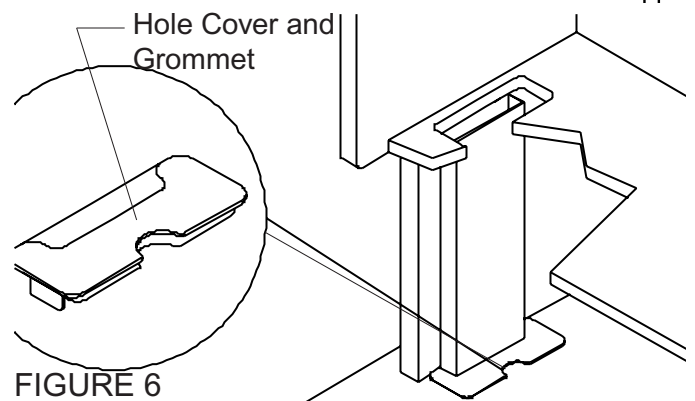

FIGURE 6
19. Break off v-mold knock-out on work surface hole cover to accommodate wireway. Attach work surface grommet into the (2) opening on the top of the work surface. Snap hole cover into grommet. (Figure 6)